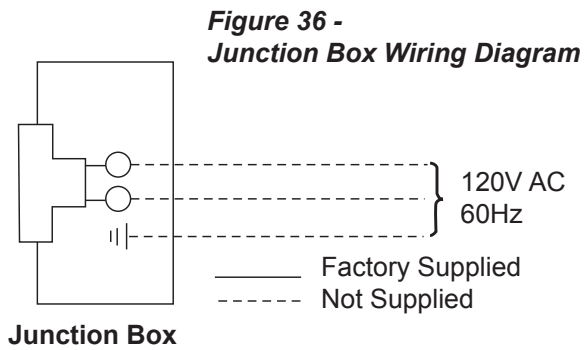

Figure 36 -
3. The junction box cover has a factory installed "romex" style strain relief connector. After connecting the wires, route the wire leads through this connector. Refer to the wiring diagram in *Figure 36*.